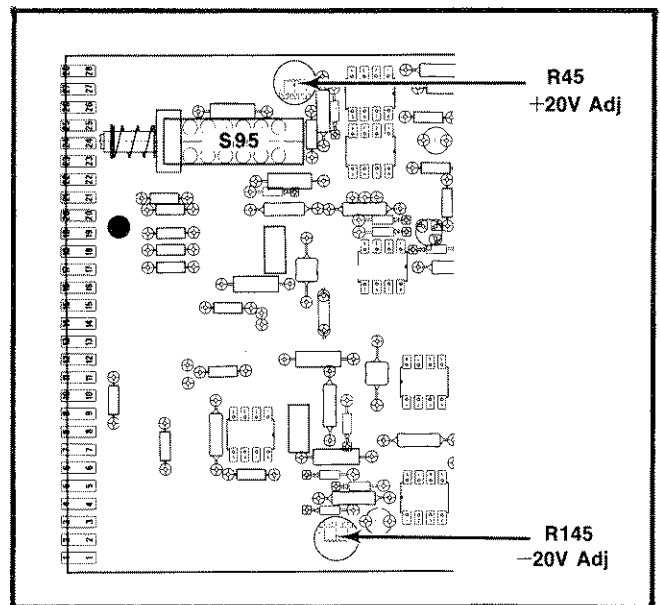

Fig. 3-1. Location of +20 V and –20 V adjustment.
b. Install the PS 503A into the far right (high power) power module compartment, or if appropriate, connect the PS 503A to the power module by means of the flexible plug-in extender. If a flexible extender is used, current limiting switch S95 must be engaged in the maximum current (HI) position. See Fig. 3-1 for switch location.
e. Adjust—R45, +20 Adj, for a meter reading of +20.2 volts,  $\pm 0.1$  volt. See Fig. 3-1 for adjustment location.
h. Adjust—R145, –20 Adj, for a meter reading of –20.2 volts,  $\pm 0.1$  volt. See Fig. 3-1 for adjustment location.